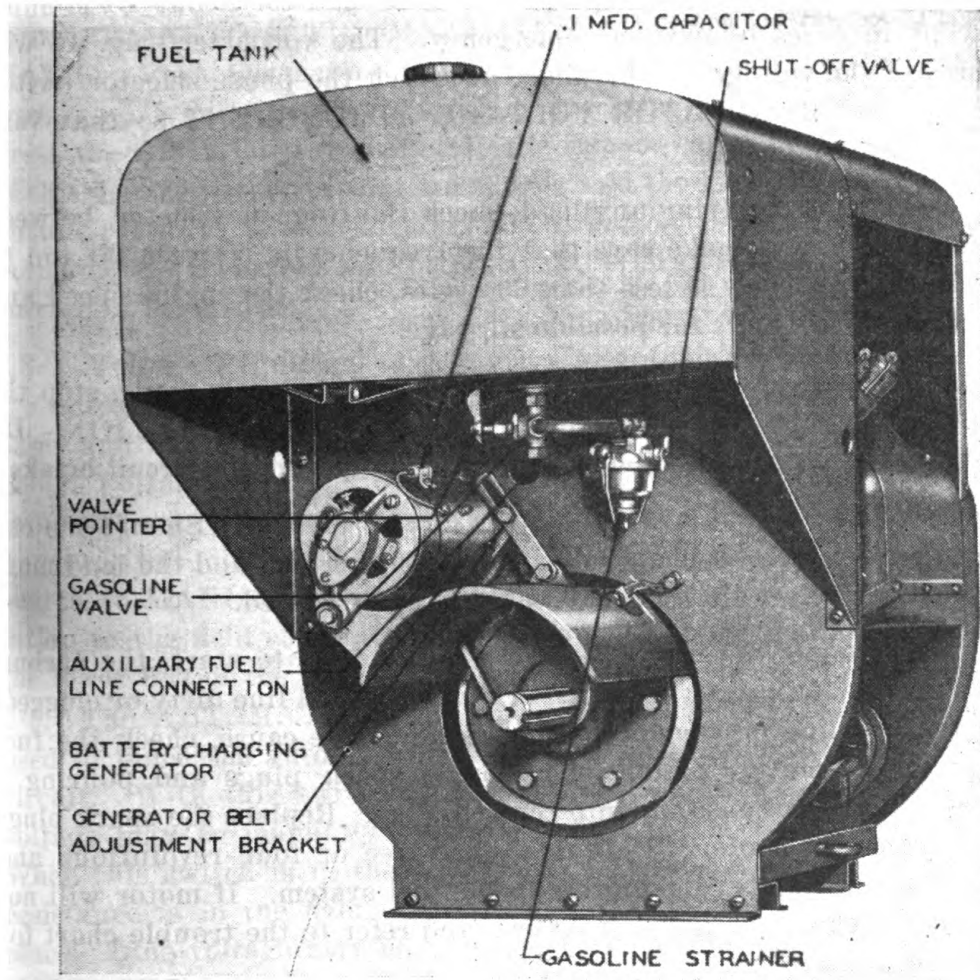

Figure 11.—Engine, Showing Fuel Line
(2) Locate the unit so that the exhaust end is near to and facing an opening to the outdoors. The muffler should be attached to the exhaust hose and the unattached end of the exhaust hose should be attached to the engine exhaust. Make all connections gas tight. Locate the unit so that the exhaust hose is as free of bends as possible to prevent excessive back pressure and so that the length of hose indoors is as short as possible.
e. When fuel is to be taken from a remote supply tank connect the 20-foot flexible fuel line supplied with the unit to the 3-way valve below the fuel tank (see figure 11) and carry the other end to the remote fuel supply. The remote fuel supply should be so located that the total fuel lift by the fuel pump will not be more than 6 feet.